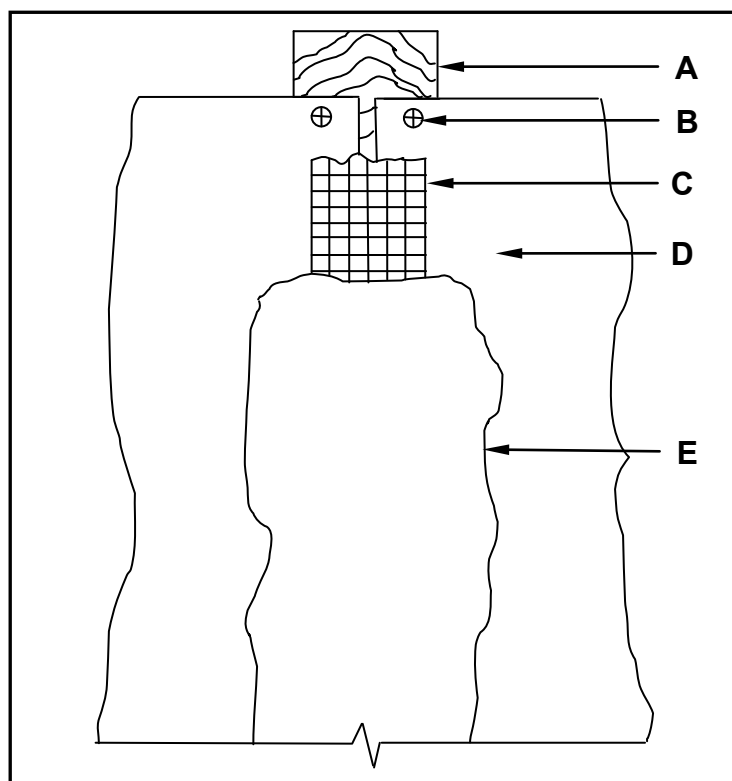

FIGURE 2.2
2.2 FIGURE 2.2 below illustrates the front elevation of a joint between two gypsum boards of a dry wall and the method used to conceal the joint. Study the drawing and answer the questions that follow.